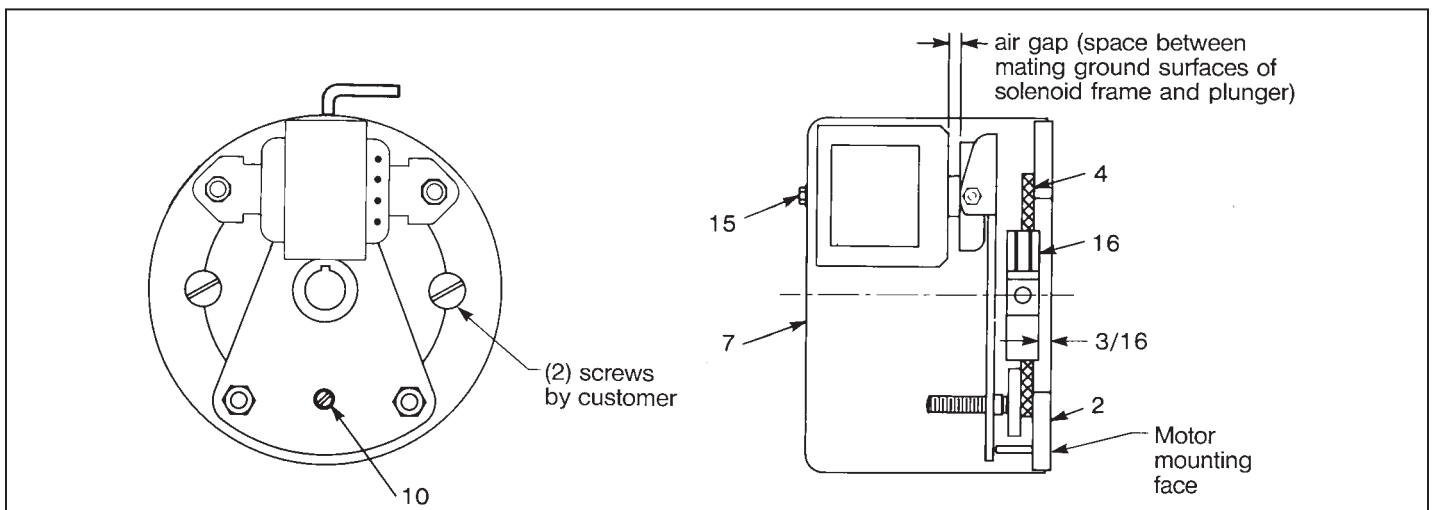

Figure 6
1. Normal friction disc wear will cause solenoid air gap to become larger from the original set 1/8" ~ 5/32" air gap. An increase in stopping time and a slight reduction in torque will consequently occur. See Figure 6.